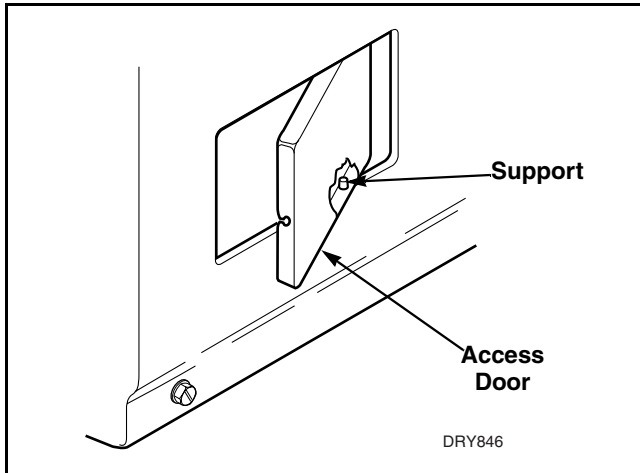

Figure 5
- (1) Remove access door by applying thumb pressure to right edge of door. When door opens move door to the left to disengage from door supports. Refer to *Figure 5*.
- (1) Remove access door by applying thumb pressure to right edge of door. When door opens, move door to the left to disengage from door supports. Refer to Figure 5.
- (2) Remove wires from sensor terminals.
- (3) Remove screw holding sensor to burner housing.
- (2) Remove wires from thermostat.
- (3) Remove two hex head screws holding thermostat to burner housing and remove thermostat.